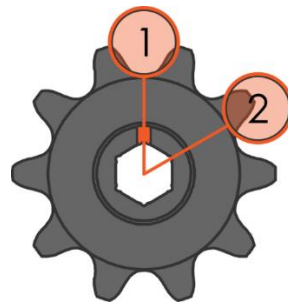

Figure 28: Shaft Alignment Example
In many cases the number of teeth on the gear or sprocket is not divisible by six, the number of sides on the hex shaft, and therefore the relative rotation between two of the same part will result in the teeth being out of alignment with each other. As Figure 28 shows, if the first sprocket was put on a shaft with the alignment notch facing upwards (noted by ①), there would be a valley at the top of the sprocket. If the second sprocket was added to the shaft, but rotated clockwise by 60 degrees (by the turn of one flat side), there would be most of a sprocket tooth at the top of that sprocket (noted by ②). It's possible to build a working system without aligning stacked parts, but it's not recommended.